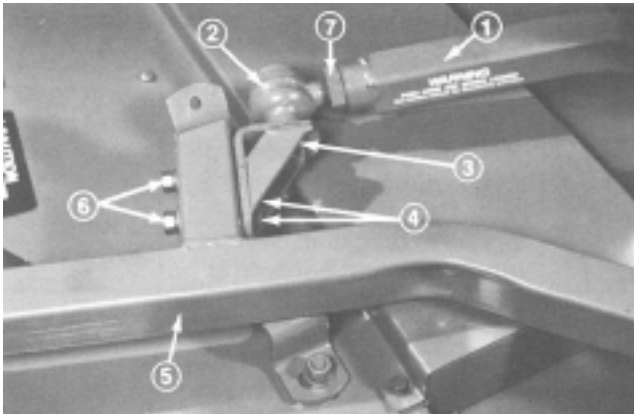

Figure 12
3. Secure ball joint mount (Fig. 12) to mount bracket with two capscrews (7/16-14 x 3”), flatwasher (15/32 I.D. x 59/64 in. O.D.) and nuts (7/16-14). Head of capscrews and flatwasher must contact ball joint mount.
4. Tighten large jam nut against front of left push arm (Fig. 12). When tightening jam nut, hold ball joint straight to permit proper oscillation during raising and lowering of cutting unit.